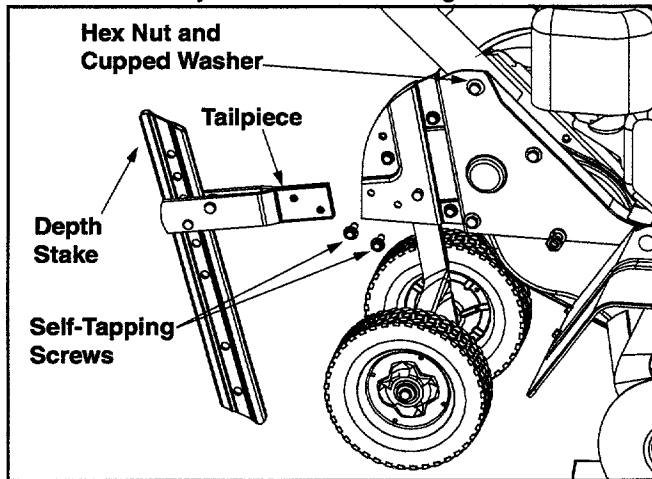

Figure 1
- Remove the two self-tapping screws on the frame. Slide the tailpiece into the frame with the lower hole in the tailpiece toward the front. Secure with screws just removed. See Figure 1.
- Remove the hex bolt and cupped washer from the top right side of the frame halves. Hold the cable guide bracket on the left side of the frame as it will fall when the bolt is removed. See Figure 1.